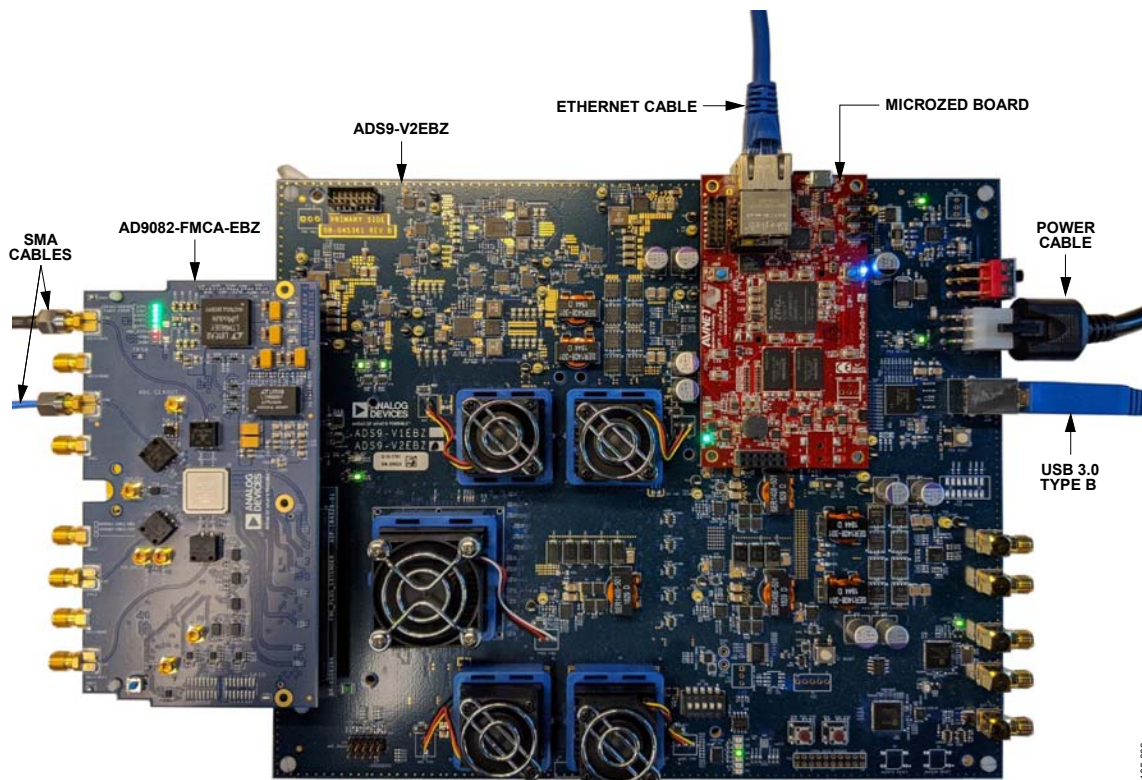
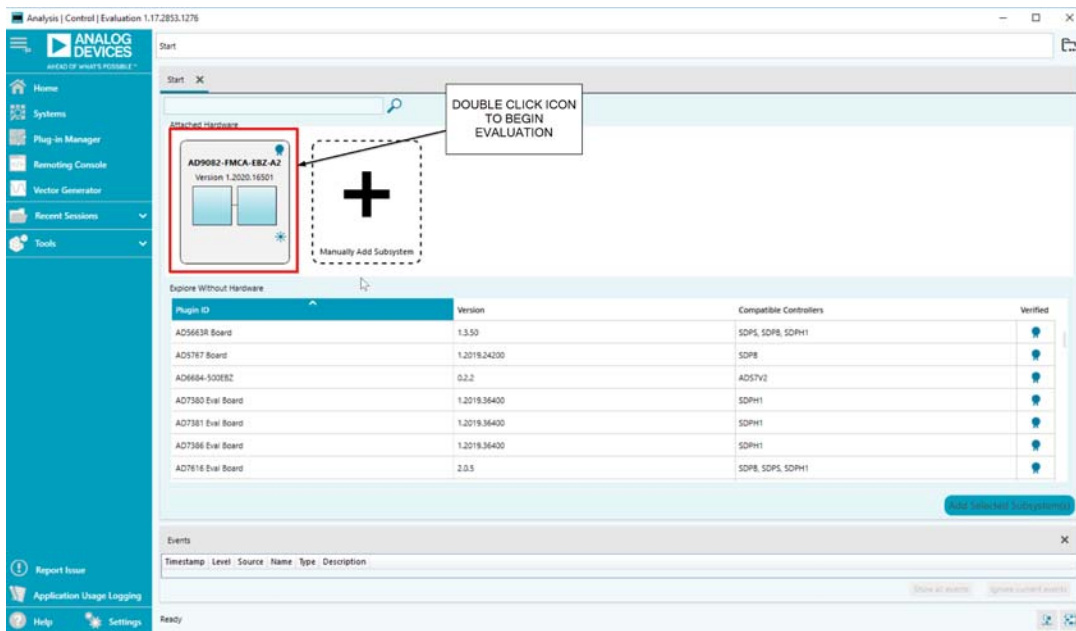

Figure 5. Bench Setup for the Evaluation of the AD9081, AD9082, AD9986, or AD9988
Figure 12. ACE Initial Window Showing the **Attached Hardware** Section
Figure 5 shows the basic hardware setup required to evaluate the AD9081, AD9082, AD9986, or AD9988. Note that the AD9082-FMCA-EBZ is shown in Figure 5 as an example. This setup uses the on-board clock to manage the clocks for the AD9082 as well as the FPGA for proper functioning of the transceivers.
The AD9081, AD9082, AD9986, or AD9988 plugin allows the user to evaluate the AD9081, AD9082, AD9986, or AD9988 chip via the AD9081-FMCA-EBZ, AD9082-FMCA-EBZ, AD9986-FMCA-EBZ, or AD9988-FMCA-EBZ evaluation board. First, ensure that the evaluation board is connected with all of the proper hardware (see Figure 5). Next, ensure that the ADS9-V2EBZ is powered on before opening the ACE software. When the user opens the ACE software, the plugin corresponding to the evaluation board chosen appears in the **Attached Hardware** section (see Figure 12).
Double-clicking the evaluation board icon in the **Attached Hardware** section in the ACE software opens the board view corresponding to the connected evaluation board. In the example shown in Figure 12, the board used is the AD9082-FMCA-EBZ. (Note that the Ax portion of the AD9082-FMCA-EBZ board name delineates the software version.) The same steps can be used for other boards as well.
3. As a precaution, ensure that the MicroZed board is seated properly on the ADS9-V2EBZ (see Figure 5). Only a visual inspection is needed.
1. Ensure that the connections to ADS9-V2EBZ are as shown in Figure 5. It is not necessary to connect the AD9082-FMCA-EBZ (or the AD9081-FMCA-EBZ, AD9986-FMCA-EBZ, or AD9988-FMCA-EBZ) evaluation board.